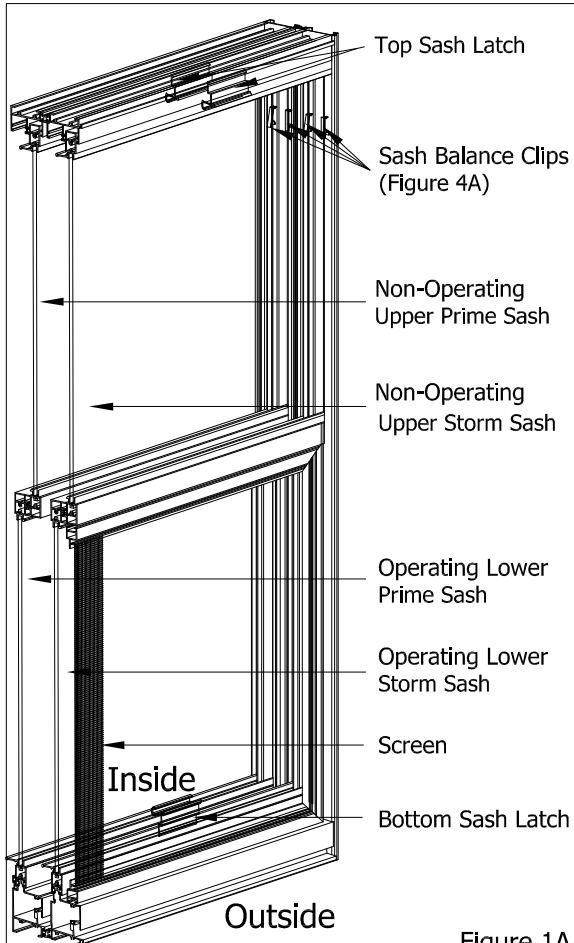

Figure 1A
2. Open the lower prime operating sash by lifting the Sash latches located near the ends of bottom sash handle rail. (Figure 1A)